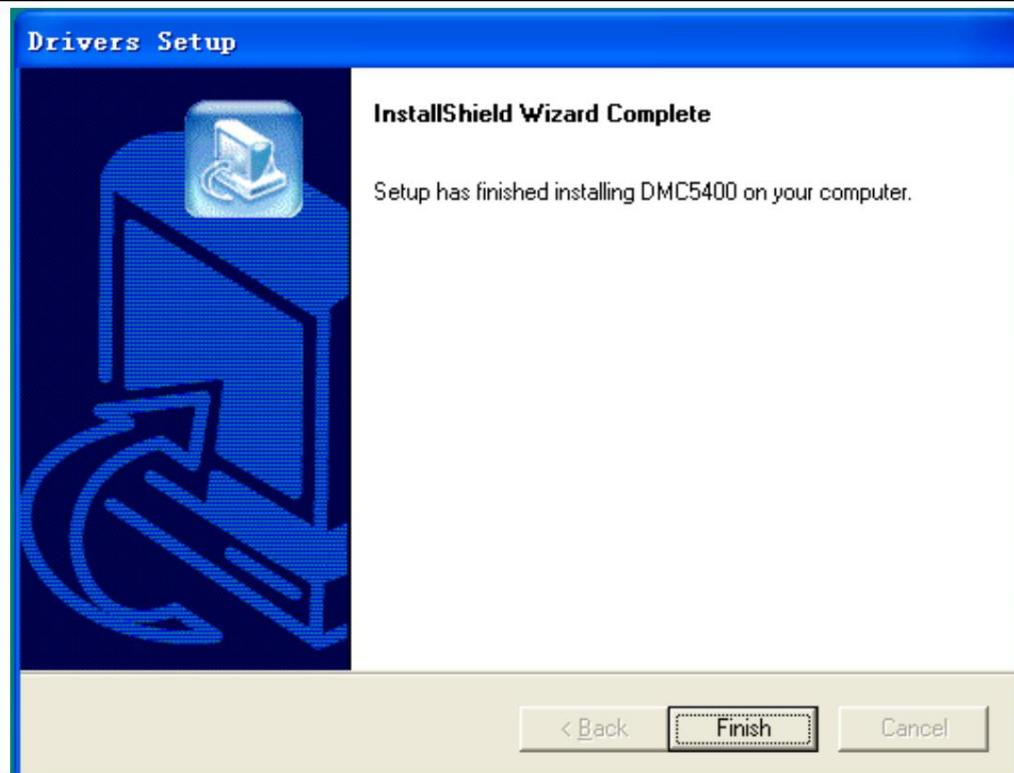

Figure 5-14 Complete the leisai driver installation
Install until the installation is complete, as shown in Figure 5-14, click Finish:
8. After the installation is complete, the interface is displayed as shown in Figure 5-14, click "Close";